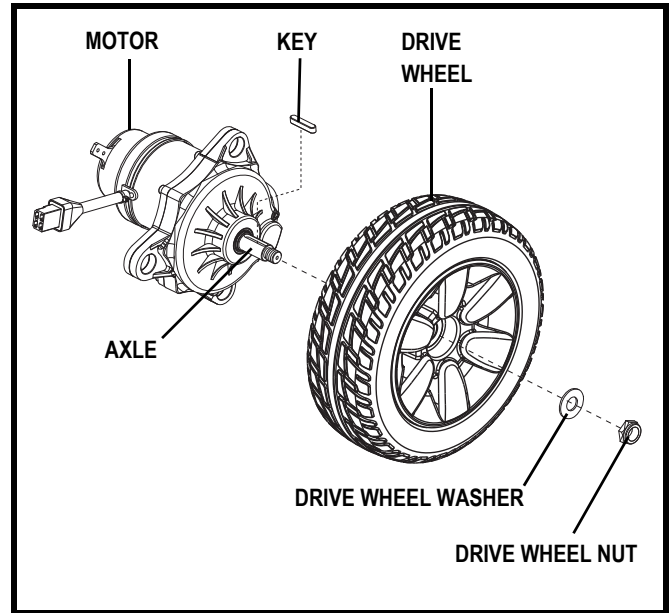

Figure 22. Jazzy Elite 6 Drive Wheel Removal
4. Remove the drive wheel nut and washer from the axle. See **figure 22**.
8. Reinstall the drive wheel nut and washer onto the axle and tighten. See **figure 22**.